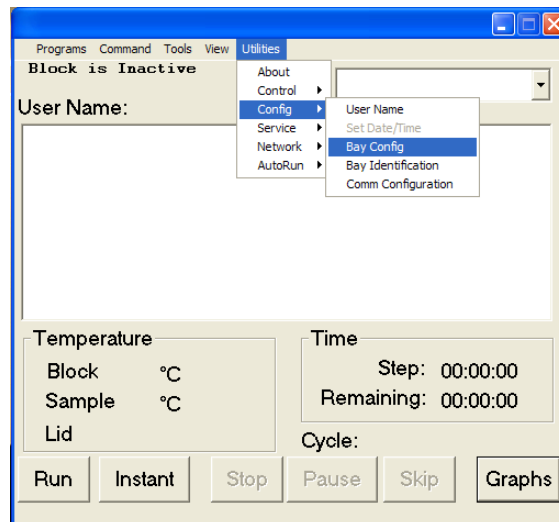

Figure 3-9. Bay Configuration in Disciple Desktop software
1. Select *Bay Config* from the *Config* sub-menu of the *Utilities* pull-down, as shown in Figure 3-9.